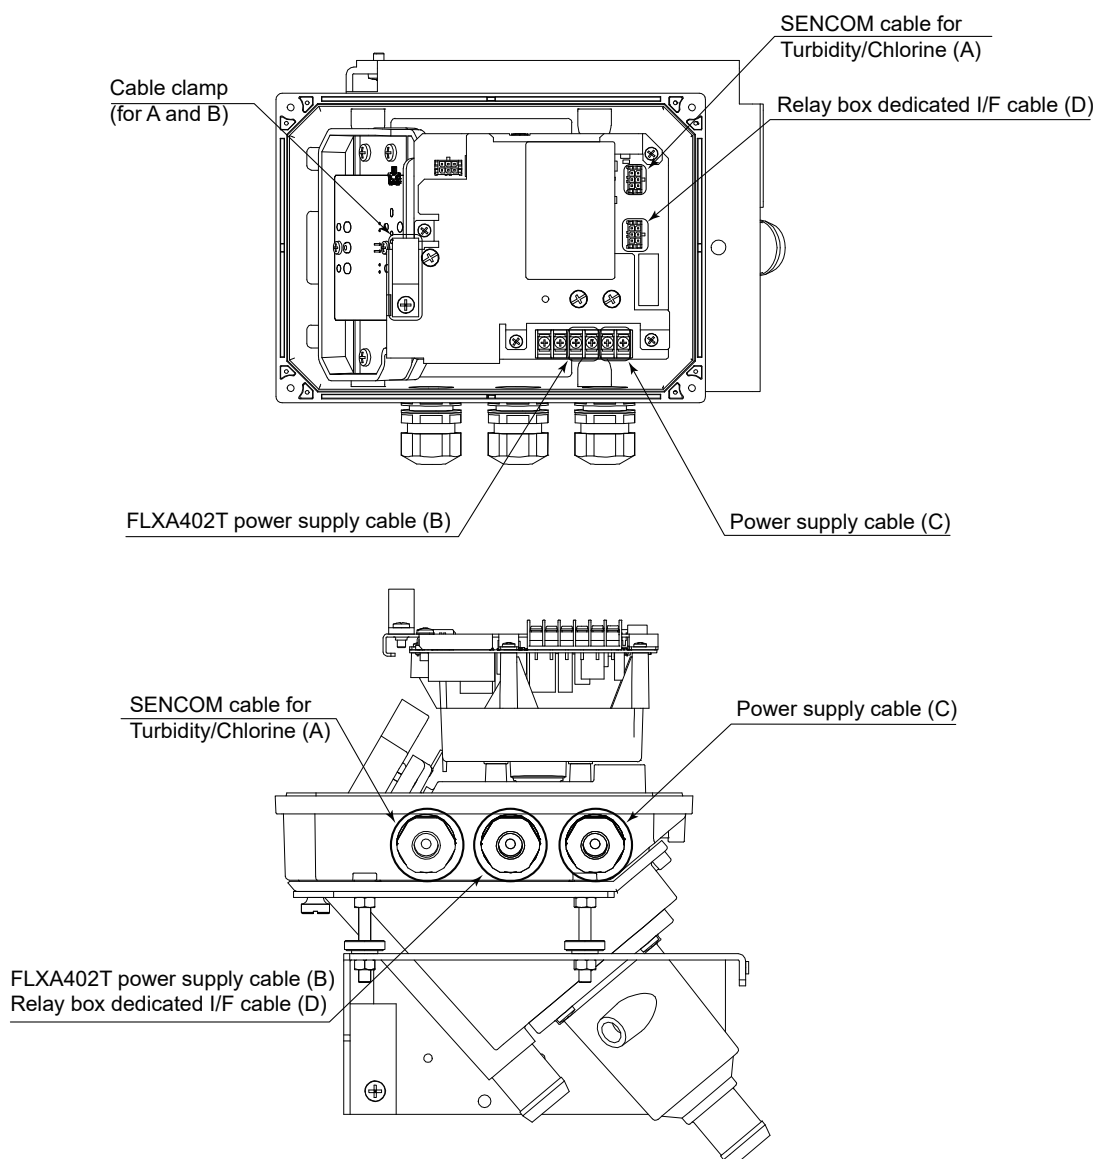
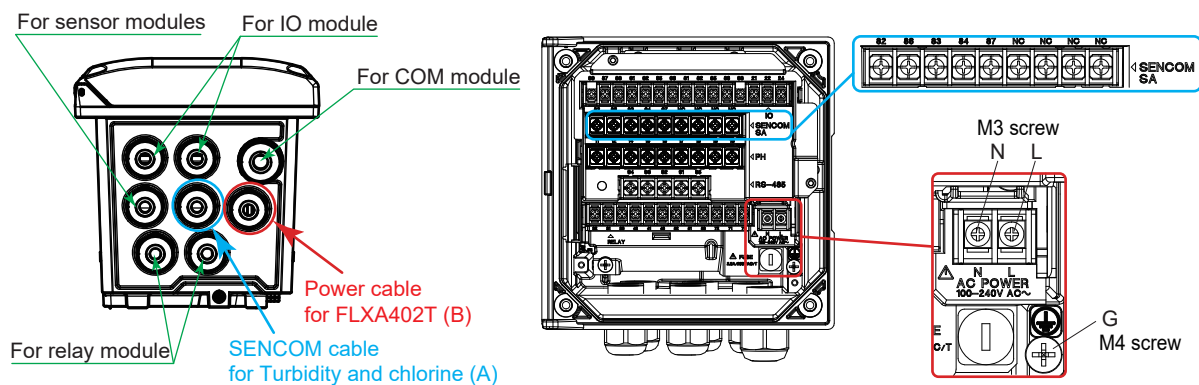
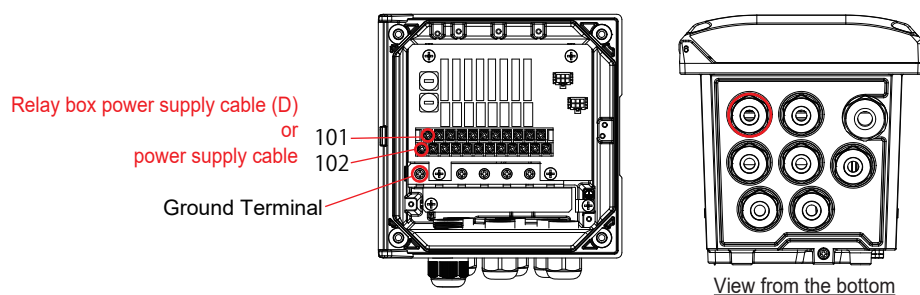
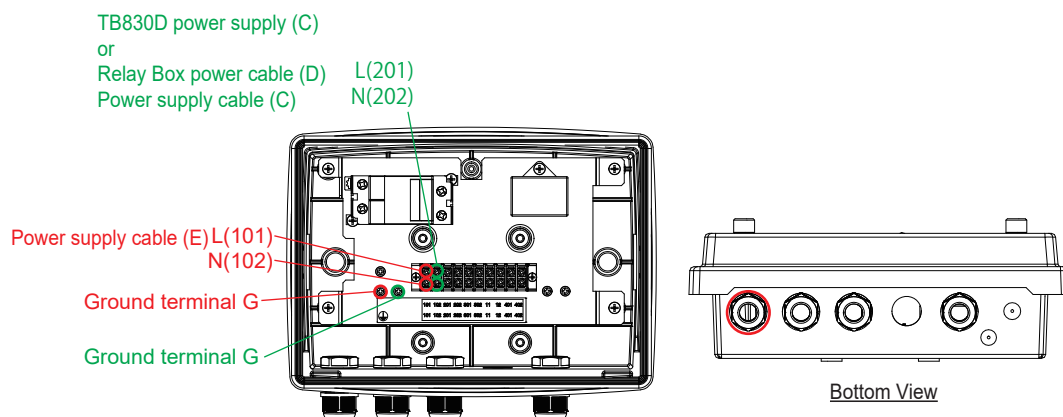

Figure 55 TB830 Side Wiring
Figure 58 Wire FLXA402T
Figure 59 Wire the Relay box
Figure 60 Wiring of Terminal box A
Wire power supply cable (TB830D power supply cable (C) or power supply cable (E)) in Figure 55 so that it does not come into contact with the SENCOM cable. Otherwise, it results in failure to comply with the safety requirements.
Dedicated cables are included. Refer to Figure 55 and Figure 57 for wiring. Refer to Section 2.6.1 of FLXA402T Installation Manual (IM12A01G01-02EN) for the wiring on FLXA402T.
Dedicated cables are included. Refer to Figure 55 and Figure 57 for wiring. The lengths of the terminal processes at both ends are different. Connect the longer side (approx. 80 mm) to TB830D side and the shorter side (approx. 50 mm) to FLXA402T side. Cables have no terminal names on them. Wire them by color. L:Black, N: White, G: Red. M3 The tightening torque for screws (L and N) is 0.6 N·m, and that for M4 screws (G) is 1.4 N·m .
4.2.3 TB830D power supply cable (C), Relay box power supply cable (D)
Dedicated cables are included. See Figure 55, Figure 58, Figure 59, and Figure 60 for wiring. Cables have no terminal names on them. Wire them by color. L:Black, N: White, G: Red. M3 The tightening torque for screws (L and N) is 0.6 N·m, and that for M4 screws (G) is 1.4 N·m .
4.2.4 Power supply cable (E)
Refer to Figure 55, Figure 58, Figure 59, and Figure 60 for wiring.